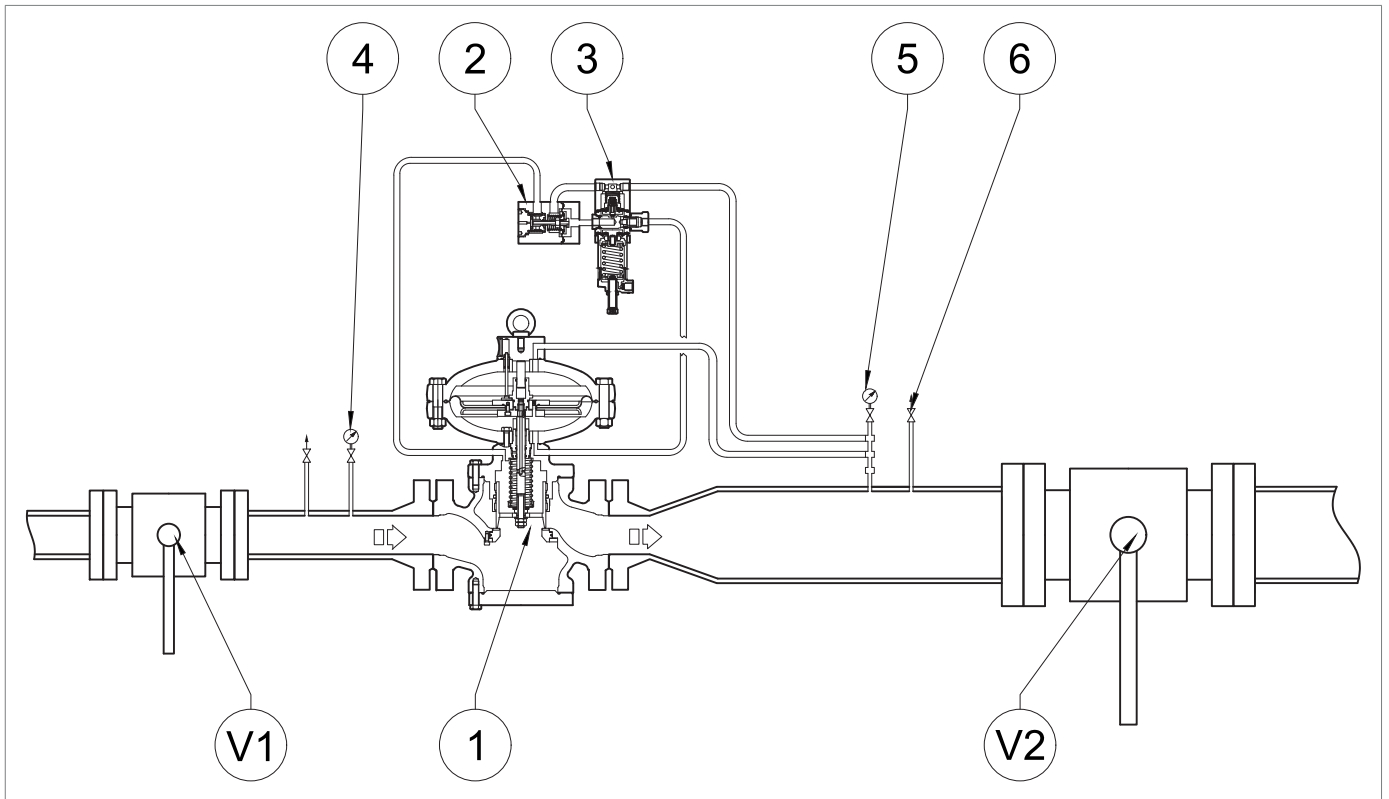

Fig. 8.29. Commissioning the regulator
1	<p>Increase the downstream pressure to the slam-shut valve by turning the adjustment screw (10) on the pilot (2) of the main regulator (1) to check the correct calibration.</p> <div style="border: 1px solid blue; padding: 5px;"> <p>! NOTICE!</p> <p>Check the pressure referring to the pressure gauge (Fig. 8.29, ref. 5) downstream of the main regulator.</p> <p>If the slam-shut valve:</p> <ul style="list-style-type: none"> • trips before the expected pressure value: screw in (clockwise) the adjustment ring nut (13) so as to further compress the spring (11); • does not trip at the expected pressure value: unscrew (anti-clockwise) the adjustment ring nut (13) so as to relieve the spring (11). </div>
2	By opening the drain cock (Fig. 8.29, ref. 6), decrease the pressure in the downstream section to the calibration value of the main regulator.
3	Close the drain cock (Fig. 8.29, ref. 6).